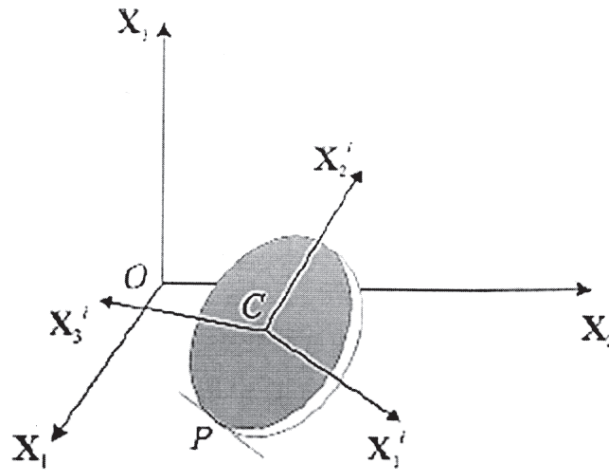

Figure 1b
b) For the rolling disc shown in the Figure 1b, Discuss the constraints applied. **[9]**